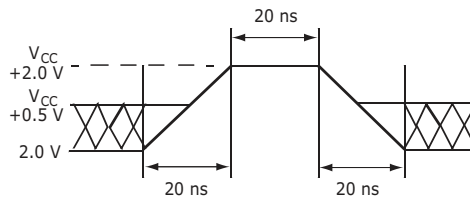

Figure 3. Maximum Positive Overshoot Waveform
2. Minimum DC input voltage on pins ACC, A9, OE#, and RESET# is -0.5 V. During voltage transitions, A9, OE#, and RESET# may overshoot V_{SS} to -2.0 V for periods of up to 20 ns. See Figure 3. Maximum DC input voltage on pin A9 and OE# is +13.0 V which may overshoot to 13.7 V for periods up to 20 ns.